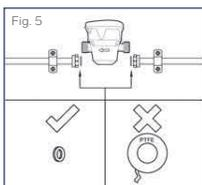

Fig. 5
7. Fit meter between the pipe connections using sealing washers. Where washers are supplied with the meter, these must be used. Do not use PTFE tape or sealing fluids as they may damage the meter (Fig. 5).